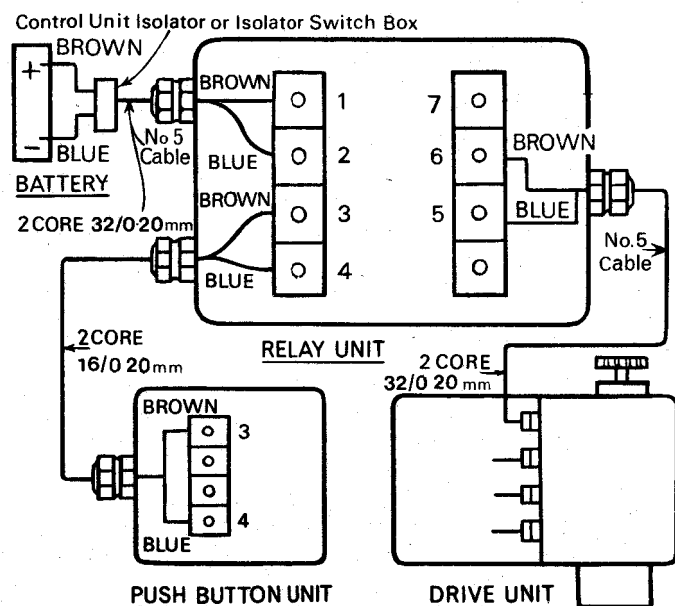

FIG.11 CONNECTIONS FOR CRASH SWITCH MK.2.
- 3.11 'CRASH' SWITCH (if fitted) Disconnect the battery, cut the 2-core 1.0mm2 32/0.20mm cable No. 5 cable at the chosen position and connect the section of cable from the Control Unit Isolator into terminals 1 and 2 of the Relay Unit, connect the section of cable from the Drive Unit into terminals 5 and 6, and using a length of 0.5mm2 16/0.20mm link terminals 3 and 4 on the Relay Unit to terminals 3 and 4 on the Push Button Unit. Figure 11.